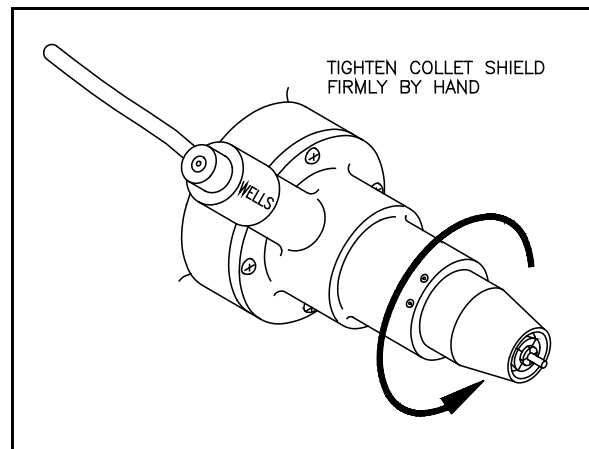

Figure 12.
- 6.10.3 Screw the collet shield onto the threads rotating **COUNTERCLOCKWISE**. See Figure 12. Tighten firmly by hand.
- 6.11.3 Screw the collet shield onto the threads by rotating **COUNTERCLOCKWISE**. See Figure 12. Tighten firmly by hand.